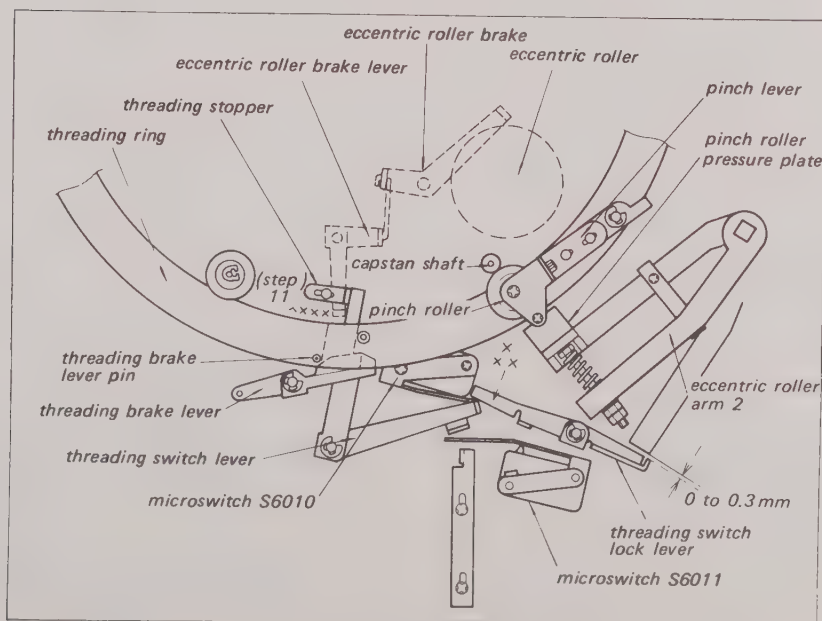

Fig. 5-43. Threading adjustments at the fully threaded position
- 8. Refer to Fig. 5-43. Rotate the Threading Ring to the fully threaded position and adjust the position of the Threading Stopper so that the pin beneath the Threading Ring runs fully off the cam of the Threading Brake Lever and check for separation between the Threading Brake Pad and the Supply Reel Table.
10. Check for 0 to 0.3 mm clearance between the Threading Switch Lock Lever and Eccentric Roller Arm 2. If necessary to correct, bend the Threading Switch Lock Lever at the point marked XXX in Fig. 5-43.
11. Bend the Eccentric Roller Brake Lever (marked XXXX) for a small amount of clearance between the Eccentric Roller Brake and the Eccentric Roller. See Fig. 5-43.